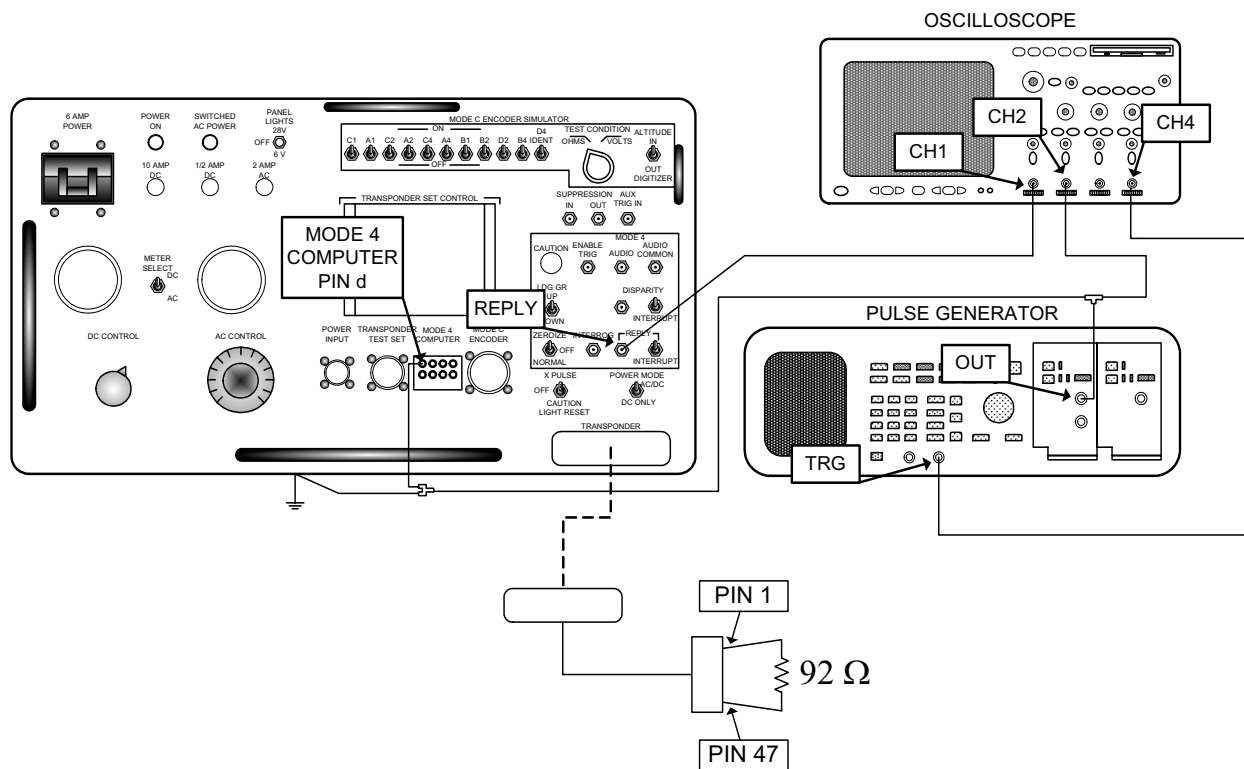

Figure 3. Pulse characteristics - equipment setup.
- (1) Connect equipment as shown in figure 3.
- (2) Set pulse generator controls for a positive (+) pulse output at a 1 kHz rate.
- (3) Adjust pulse generator controls for a 0.5 μs pulse 10 V in amplitude as indicated on oscilloscope **CH 2**.
- (4) Set **6 AMP POWER** circuit breaker to **ON** and adjust **DC CONTROL** for a 28 V dc indication on TI voltmeter.
- (5) Using standard measurement techniques, measure the pulse characteristics listed in table 4 for the **REPLY** pulse on **CH 1** of oscilloscope. Indications as observed on oscilloscope will be as specified in table 4.